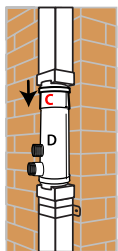

fig 6
3. Bring down the top joint until it locates into place with the Diverter body. [see: fig 6]